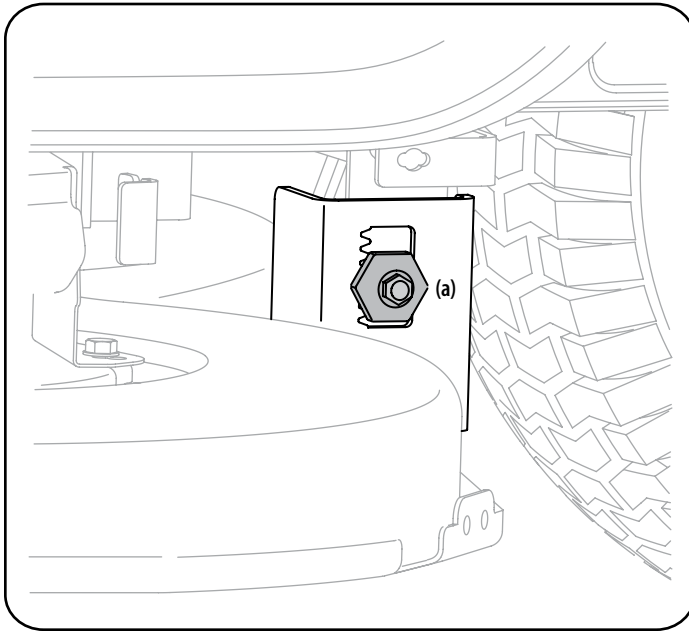

Figure 22
3. Loosen, but do NOT remove, the hex cap screw (a) on the left deck hanger bracket. See Figure 22.